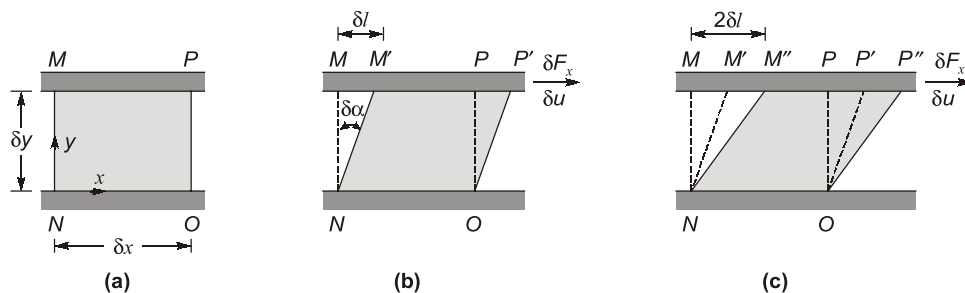

Figure 1.1 (a) Fluid element at time t , (b) deformation of fluid element at time $t + \delta t$, and (c) deformation of fluid element at time $t + 2\delta t$.
- Consider the behavior of a fluid element between the two infinite plates as shown in Figure 1.1 (a). The rectangular fluid element is initially at rest at time t . Let us now suppose a constant rightward force δF_x is applied to the upper plate so that it is dragged across the fluid at constant velocity δu . The relative shearing action of the plates produces a shear stress, τ_{yx} , which acts on the fluid element and is given by $\tau_{yx} = \lim_{\delta A_y \rightarrow 0} \frac{\delta F_x}{\delta A_y} = \frac{dF_x}{dA_y}$, where δA_y is the area of contact of the fluid element with the plate and δF_x is the force exerted by the plate on that element.